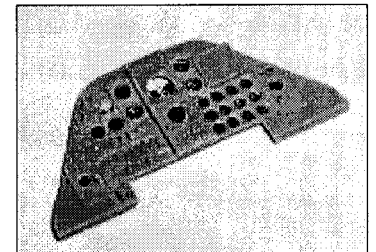

Figure 3
- We offer you a choice of how to display your instrument panel and console. You can individually paint the instrument dials, or you can use the enclosed acetate dials. If you choose to use the acetate, gently sand the back of the instrument panel on a piece of wet 600 grit sandpaper taped to a flat surface. The thin backing sheet in each of the dial faces will quickly fall away. Paint the rear of the acetate white to make the instrument dial details really pop out. Sandwich the acetate between the instrument panel and panel backing plate. You may need to bevel the edge of the backing plate closest to the nose to ensure a snug fit inside the resin coaming piece; do this before you paint the panel details. Glue the center console to the instrument panel. See Figure 3. Set this assembly aside until later.